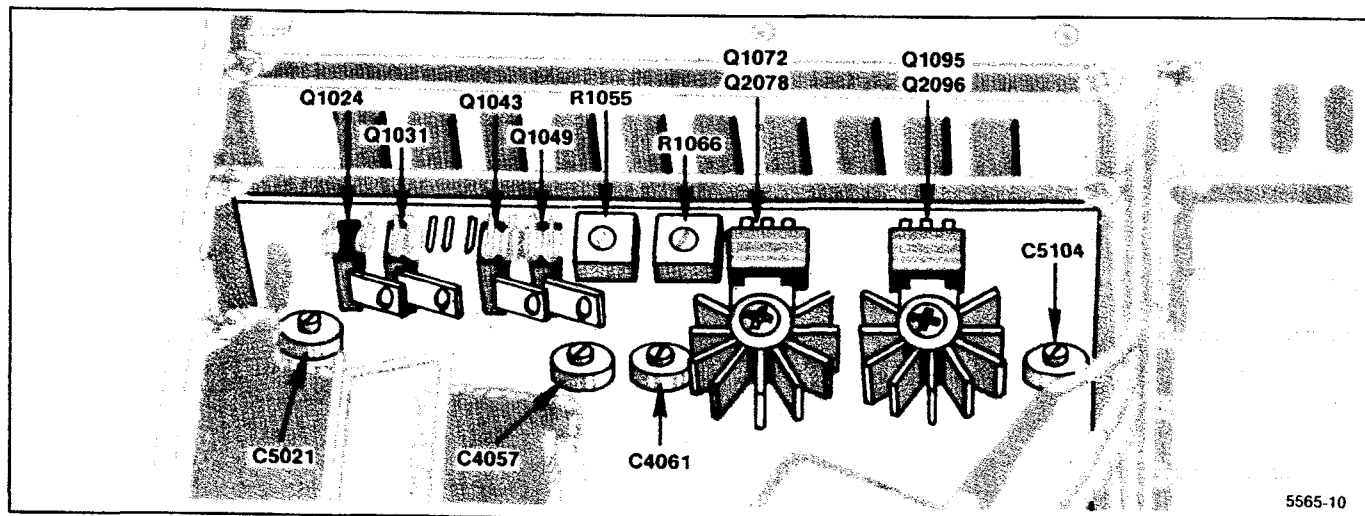

Figure 5-6. Deflection Amplifier test points and adjustments.
k. Monitor the collectors of Q1031 and Q1024, on the Deflection Amplifier board, with the test oscilloscope. See Figure 5-6 for the locations of Q1031 and Q1024.
n. Adjust C4057 (Figure 5-6) for the best response.